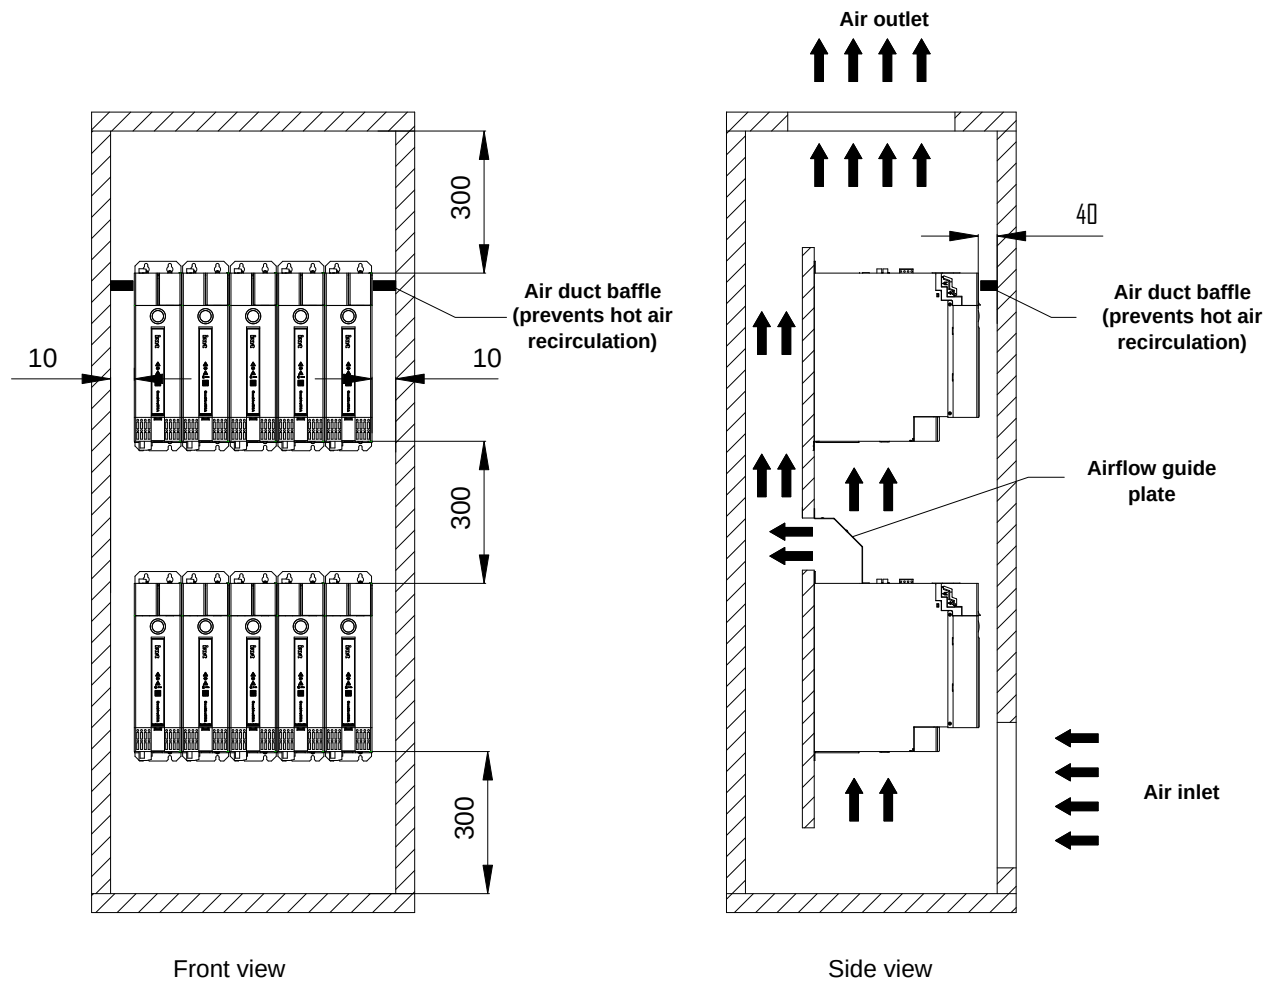
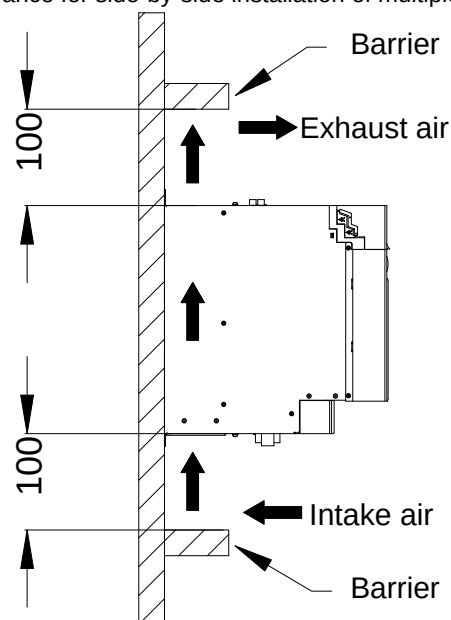

Figure 4-3 Clearance for side-by-side installation of multiple units (unit: mm)
Figure 4-4 Installation clearance with obstructions above and below (unit: mm)
2. For applications requiring up and down installation, reserve sufficient clearance around the units to ensure effective heat dissipation. For details, see Figure 4-3.
3. A minimum ventilation clearance must be maintained above and below each unit to ensure proper heat dissipation. See Figure 4-4.
Note: The dimensions specified in Figure 4-3 and Figure 4-4 represent the minimum clearance requirements.
- In applications requiring vertical (stacked) installation, air deflectors must be installed. For details, see Figure 4-3.
- In cases of passive ventilation (no system exhaust fan installed at the air outlet), air duct baffles must be installed to prevent hot air recirculation. For details, see Figure 4-3.